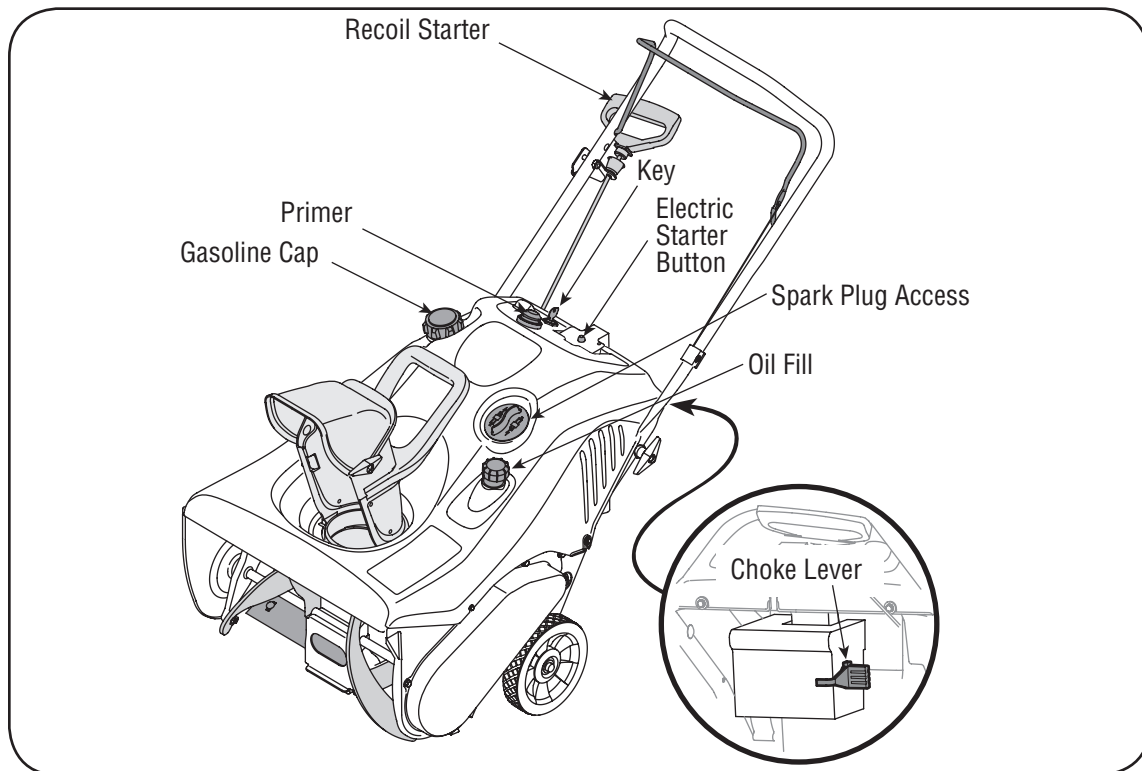

Figure 5
3. Now follow the instructions below as it pertains to your unit. See Figure 5 for location of controls.